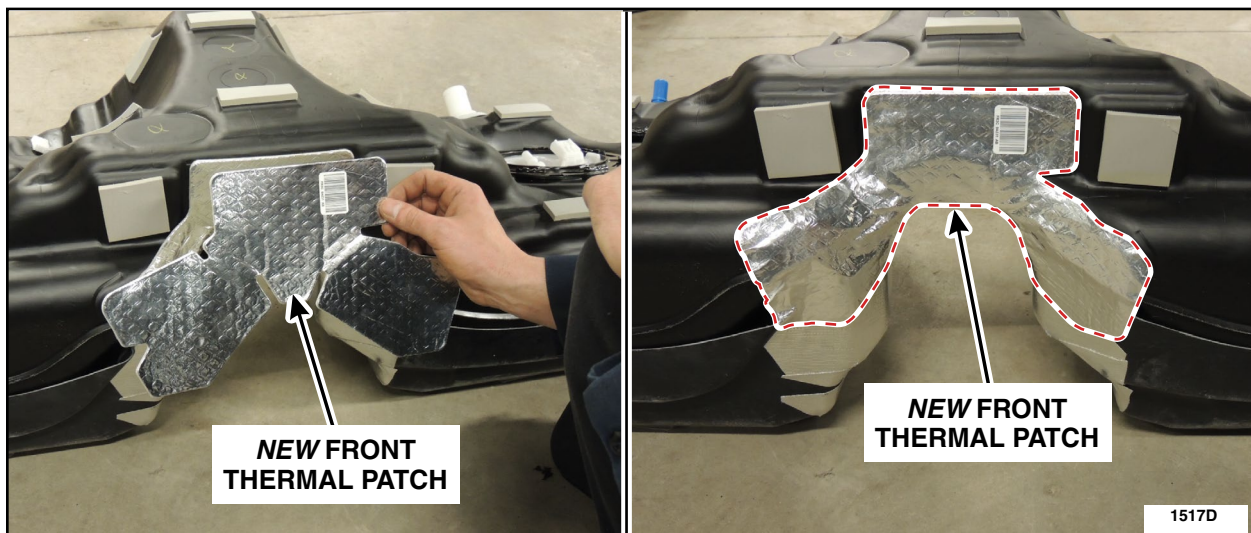

FIGURE 5
6. Apply *new* thermal patch over the existing thermal patch at the front of the fuel tank. See Figure 5.